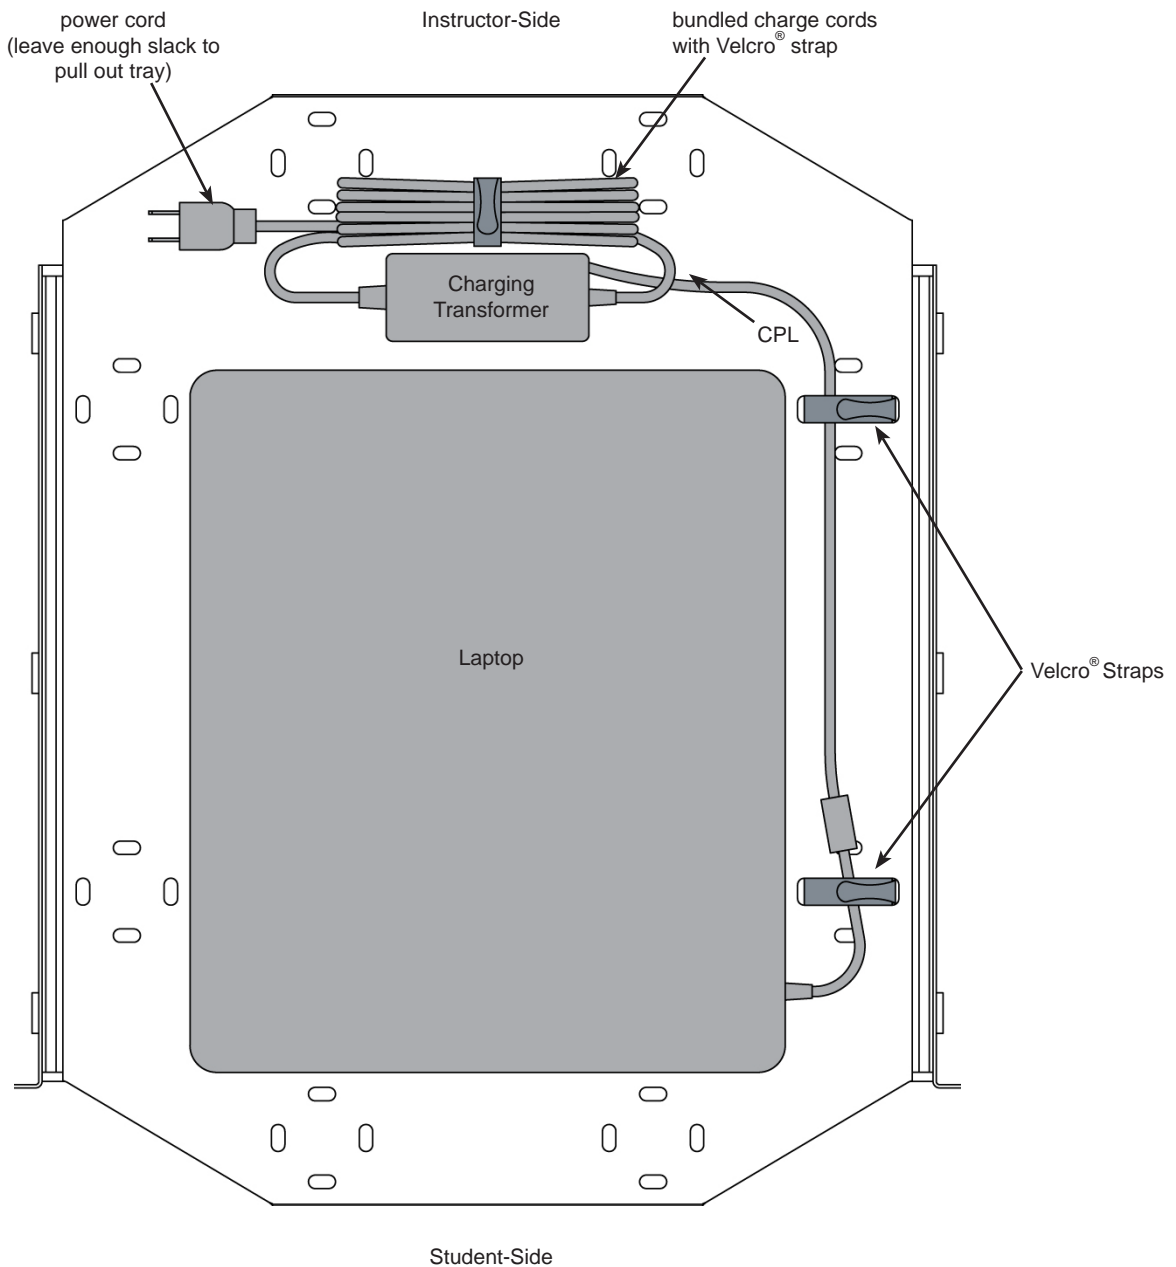

Figure 4
1. Using the cord management slots in the trays, and Velcro® straps provided, bundle the charge cords. **Figure 4** shows a typical wiring example. Be sure to leave enough slack in the power cord to allow the tray to be pulled out.